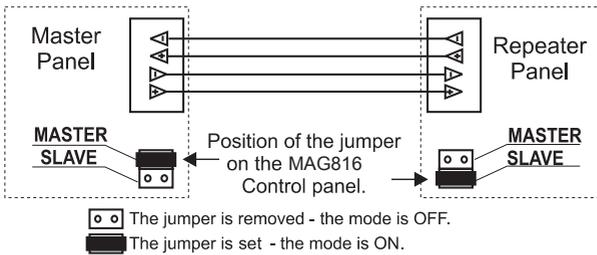

Figure 20.
Figure 20 shows the connection between the Master and Slave MAG816 panels.
- Connect the repeater to the first MAG816 - see Figures 20, 21 and 22.